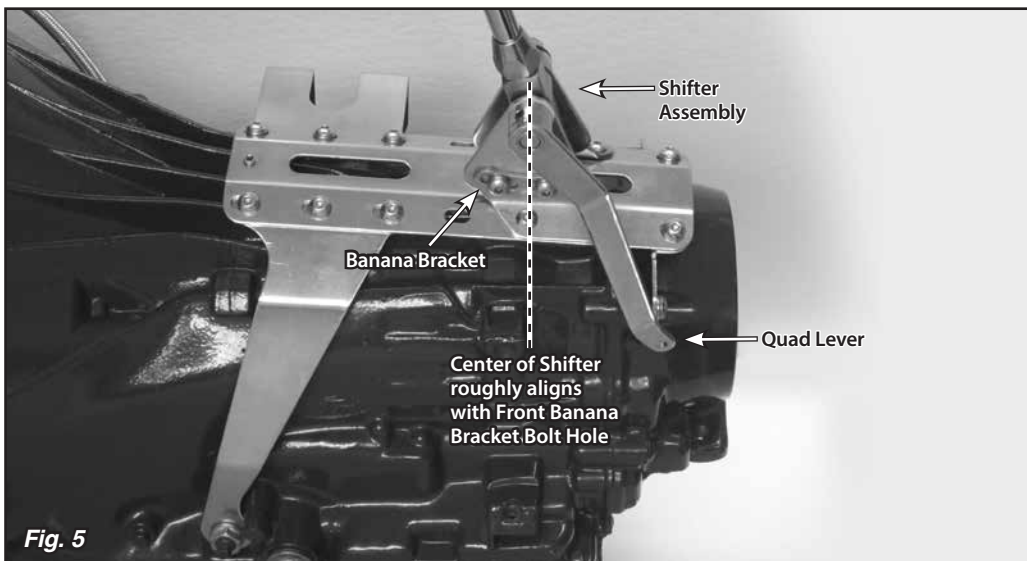

Fig. 5
**Step 8: (Continued)** Transfer that measurement to the transmission (or to the engine/transmission assembly if the engine is not installed in the vehicle). Mark that location on the shifter's main plate. The holes in the main plate that are closest to your mark are where the FRONT banana bracket bolts will need to be installed. **Fig. 5**